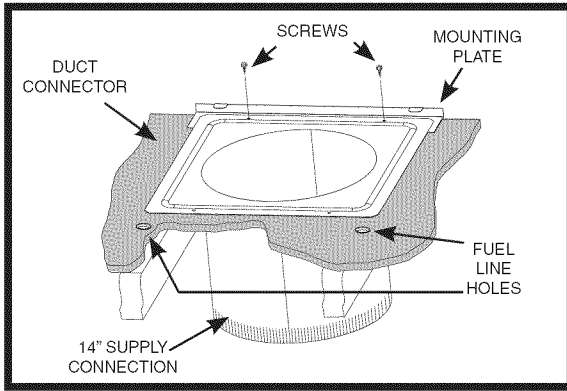

Figure 13. Round Duct Connector Installed
3. Install the mounting plate under the back side of the duct connector. See Figure 13 (page 11). **NOTE:** Align the screw holes in both components.